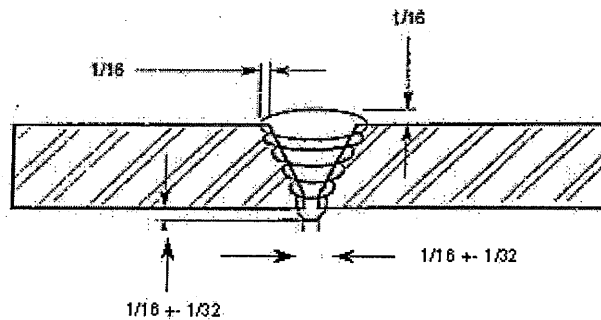

Figure 2 - Completed Butt Weld
2. Completed weld (see figures 2 and 3)